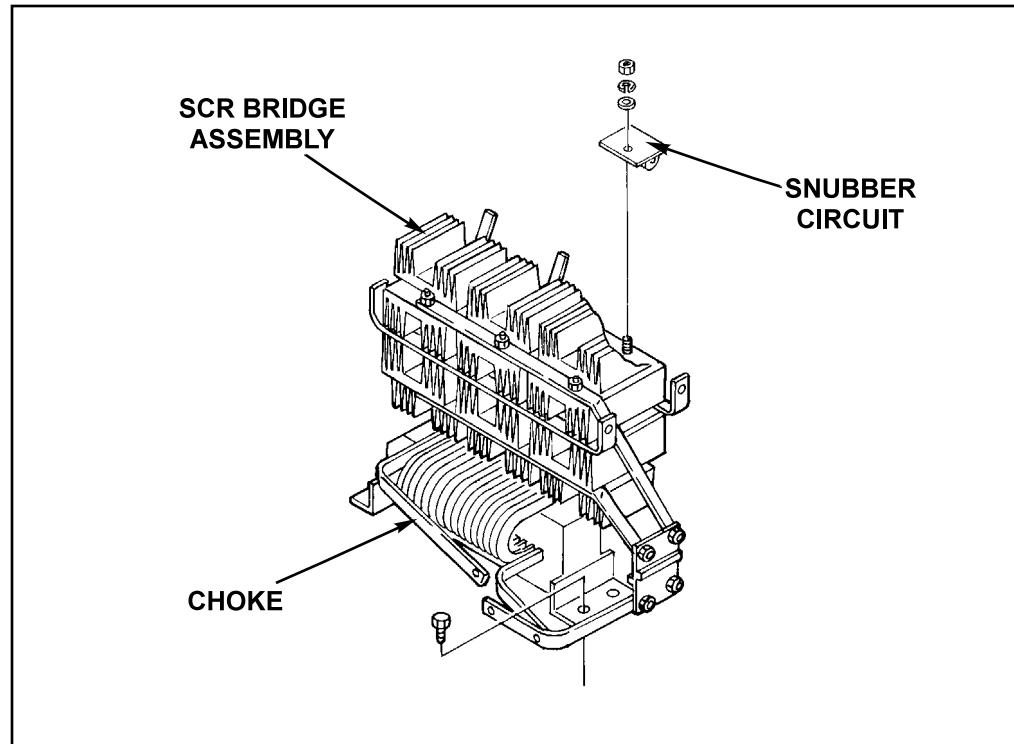

FIGURE F.14 - Snubber Location and Circuit
- a. If a low resistance is indicated in either direction, disconnect the snubber circuit (See wiring diagram) and retest SCR 1. If a low resistance is still indicated, SCR 1 is faulty - Replace. If a very high or infinite resistance is indicated without the snubber circuit, then replace the snubber circuit, See Figure F.14.